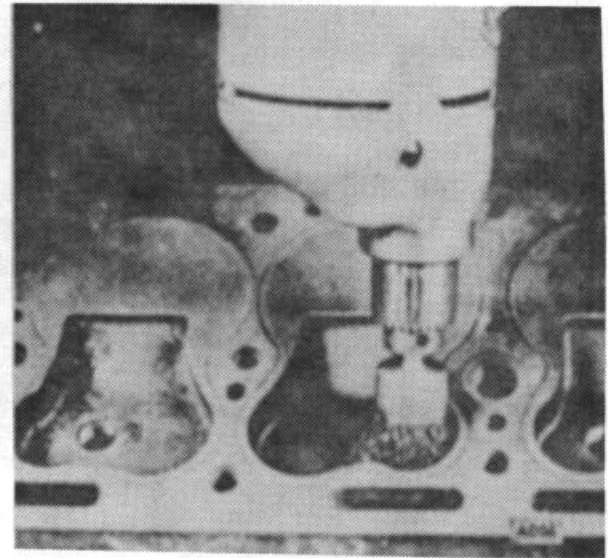

Figure 6.
1. Remove all carbon from combustion areas, using a scraper and wire brush. (Fig. 6)